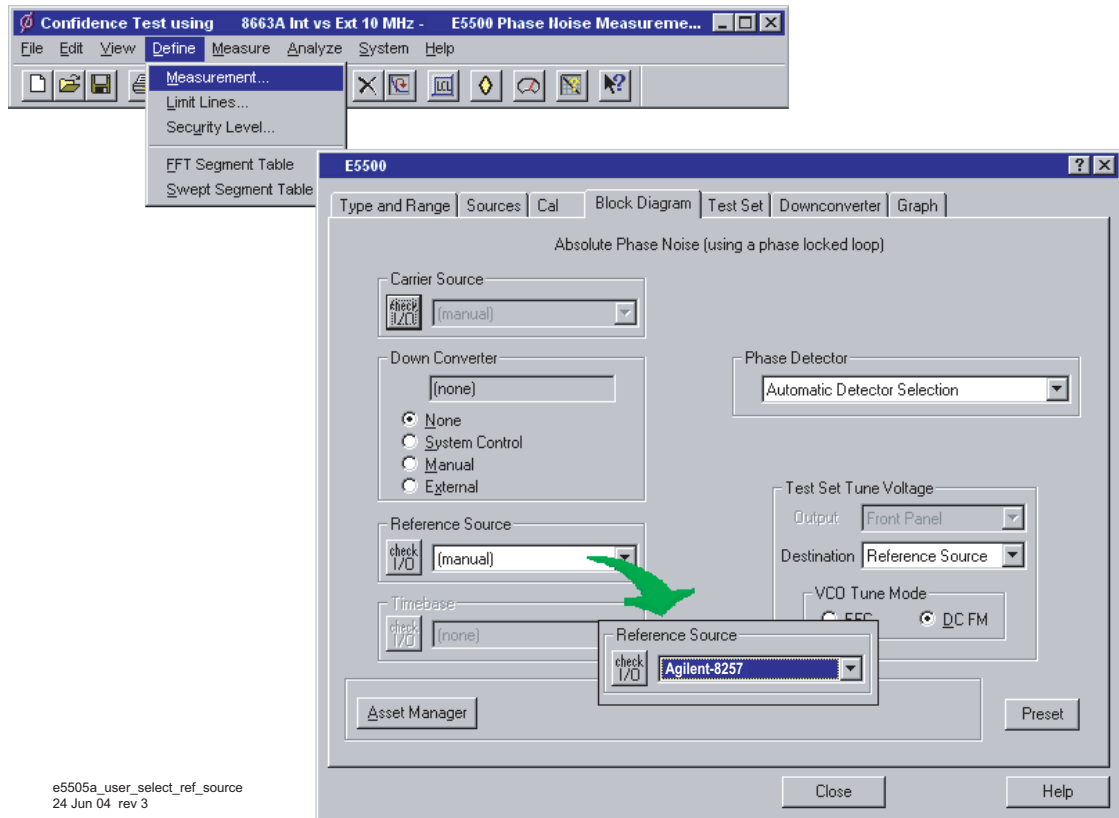

Figure 99 Selecting a reference source
- 1 Using Figure 99 as a guide, navigate to the **Block Diagram** tab.